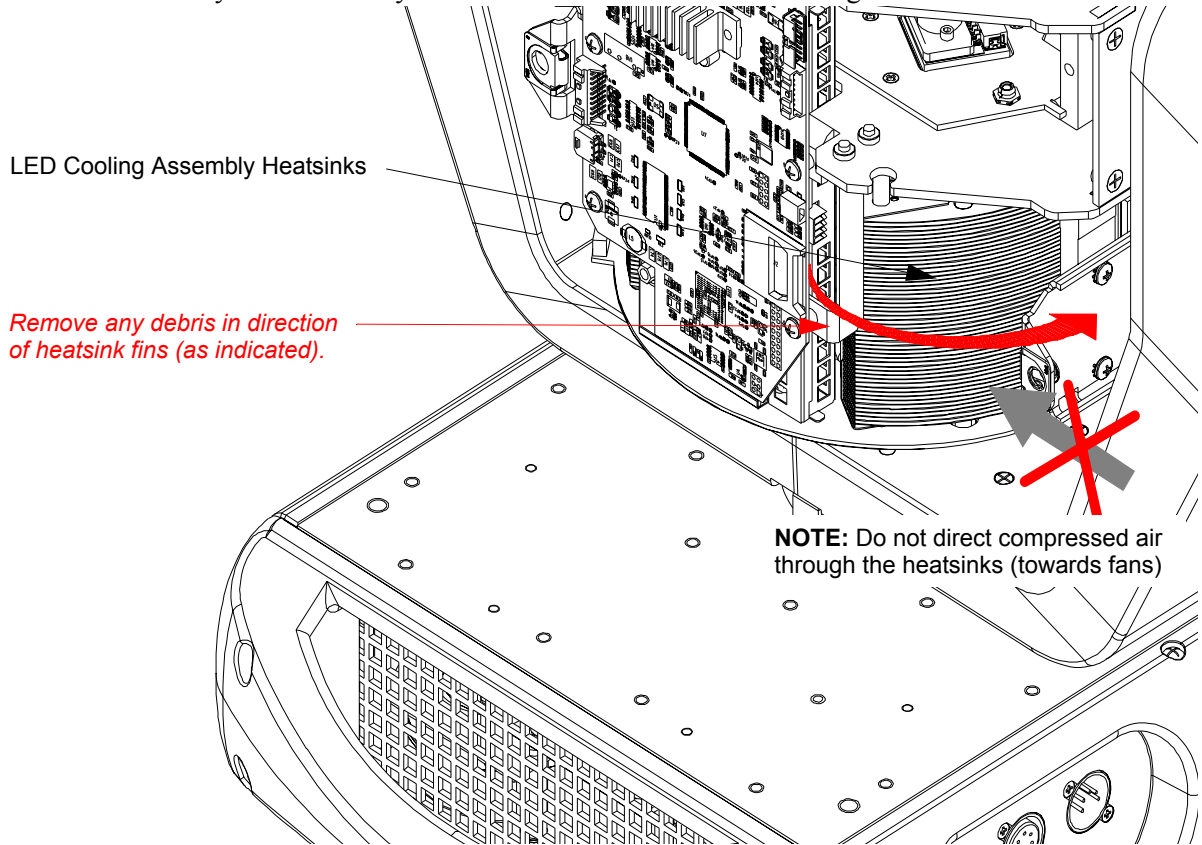

Figure A-3: VLX3 Wash Cooling System Heatsink Cleaning
- Step 5. As indicated in Figure A-3, at LED cooling assembly heatsinks, run Mottler brush gently through and in the direction of the heatsink fins from top to bottom so debris will fall down and away from assembly. Care should be taken as not to damage heatsinks.